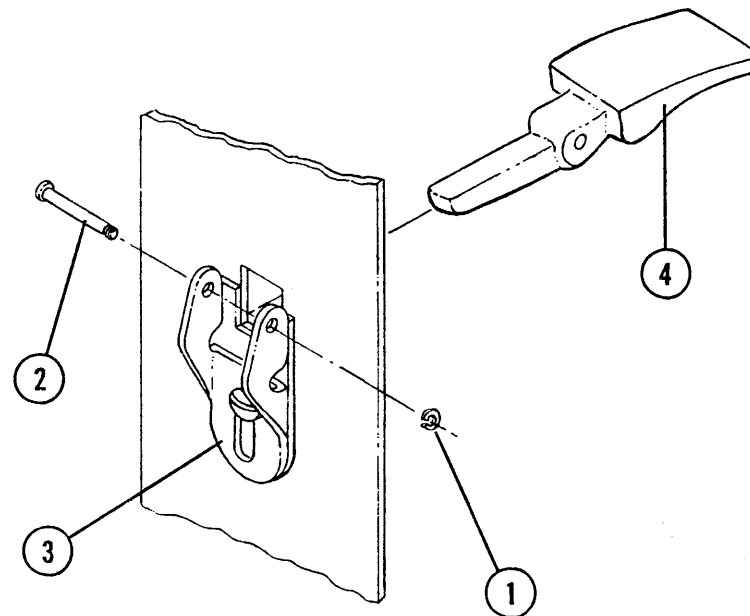

FIG.2
- B. IF 880 TP-M trim is used, see Fig.2.